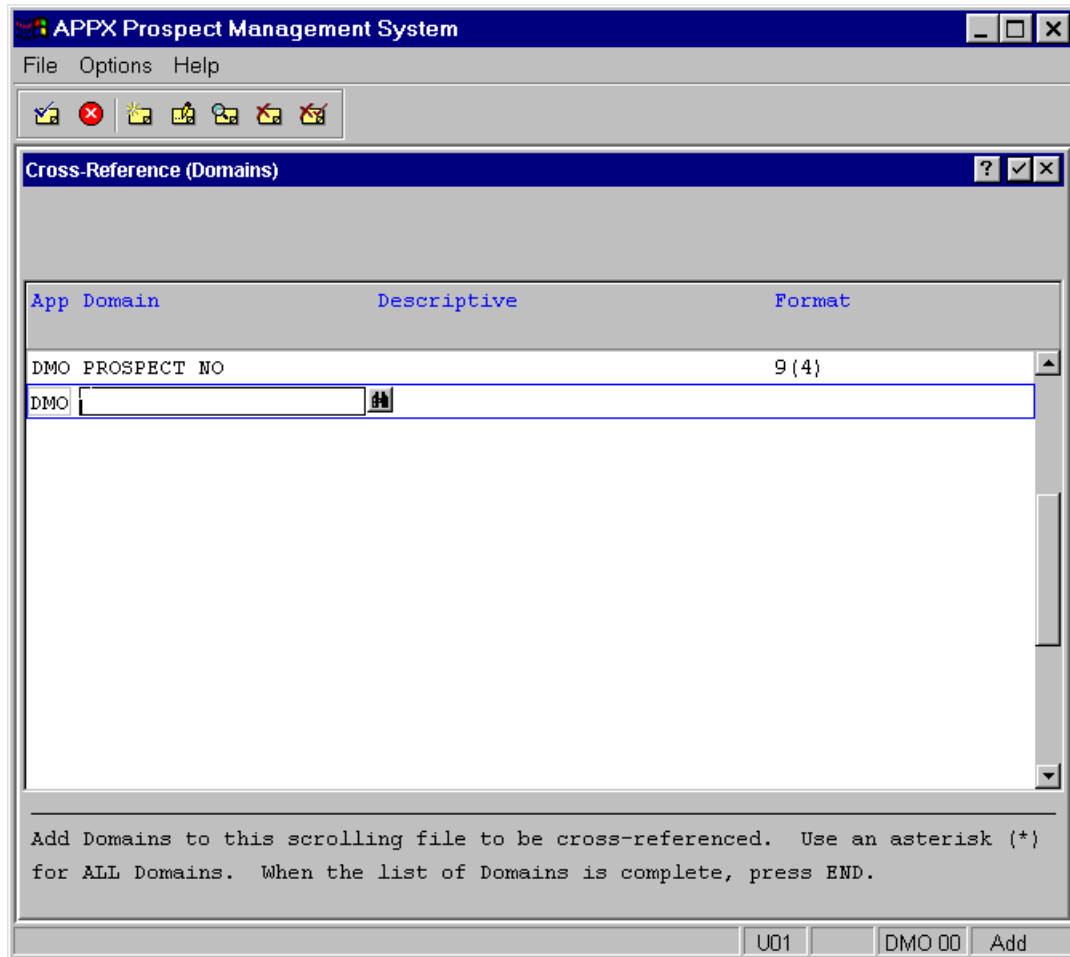

Figure E1.7 – Cross-Reference for Domains
- Press **ENTER** to save your record. An empty Domain field is displayed to allow entry of additional domain names as shown in *Figure E1.7*.